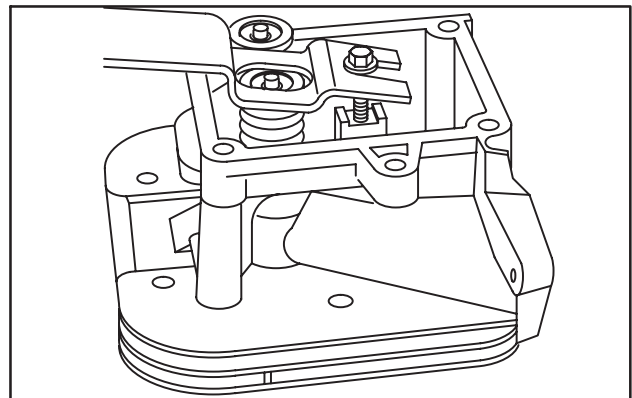

Fig. 20 – Install Valve Springs
3. Install valve springs with valve spring compressor, Tool #19347, Fig. 20.